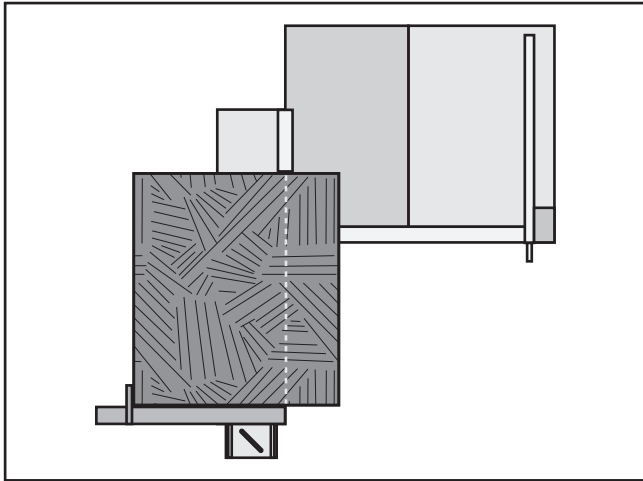

Figure 54. Rip cutting with the sliding table.
This saw has the capability of rip cutting large panels, as shown in **Figure 54**. The sliding table removes the burden of sliding a large and heavy panel over a stationary table surface.
5. Load the workpiece onto the table saw. The set up should look similar to **Figure 54**.